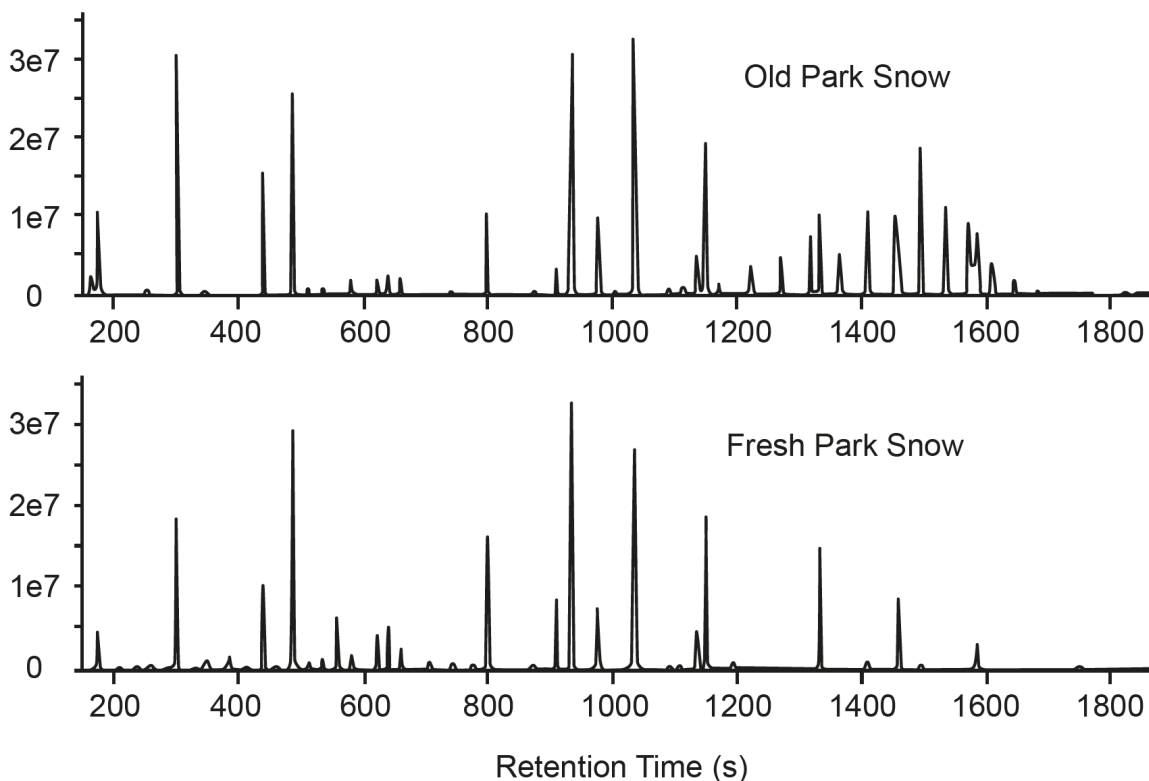

Fig. 2.1
Fig. 2.1 shows the GC spectra of old snow and fresh snow in the investigation.
- (ii) Using the spectra in **Fig. 2.1** put a tick (✓) for each retention time in the table to indicate if the compound is present in both fresh snow and old snow **or** if it is an additional pollutant in the old snow. You should only put **one** tick in each row.
Write the letter **N** above the correct peak on **Fig. 2.1** to show its position on the spectrum.